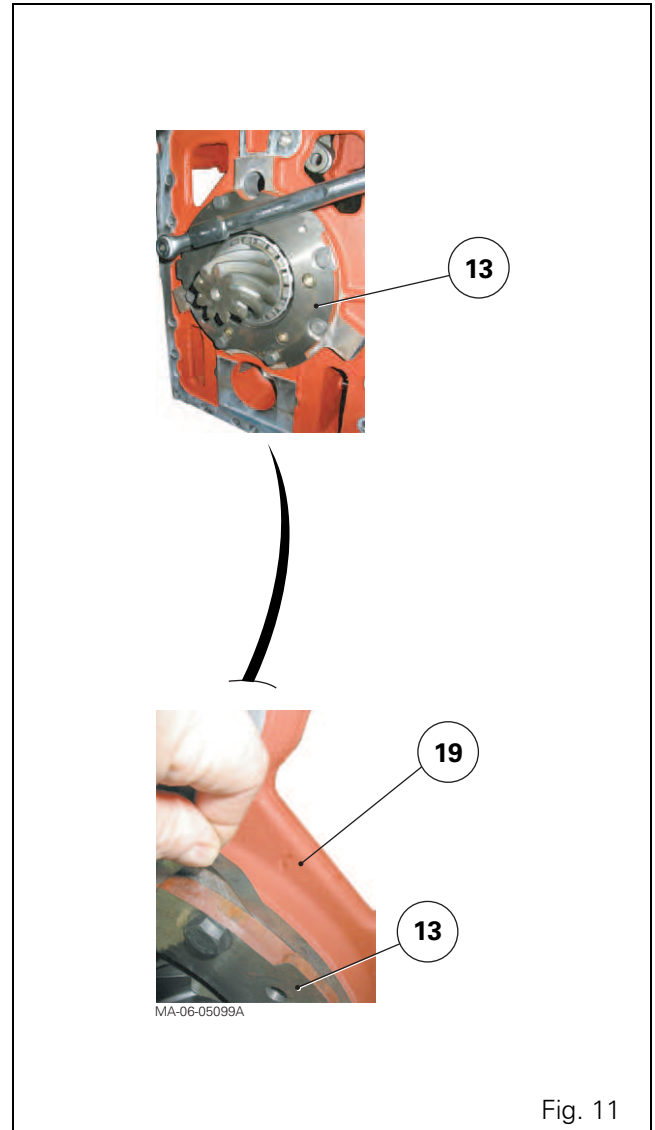

Fig. 11
39. Force fit the bearing cone (7) (if removed) against the drive pinion shoulder with a press and a suitable fixture.
- the bearing cup (10) against the shoulder of the carrier (13);
- the bearing cup (2) against the shoulder of the intermediate casing cover (19).
41. Temporarily exclude from the bearing carrier (13):
- the unit (15);
- the shim(s) (12).
42. Fit the bearing carrier (13) inside the intermediate housing. Attach with screws (11), progressively and alternately tightened to a torque of 100 - 130 Nm.
IMPORTANT: Using a 0.05 mm thick shim, check, at three equidistant points, that the carrier (13) is in contact with the intermediate housing (19) (Fig. 11).
43. Lightly grease the bearing (7)(10) with clean transmission oil.